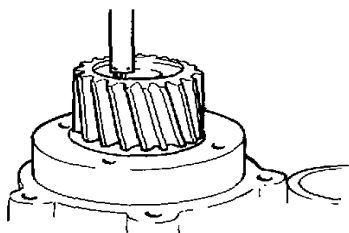

Fig. 186.
7. Check, by measuring, the position of the pump shaft in the bearing journal. The distance from the end of the gear shaft to the end of the pump shaft should be 38.8–39.2 mm (1.527–1.543"), see fig. 186.